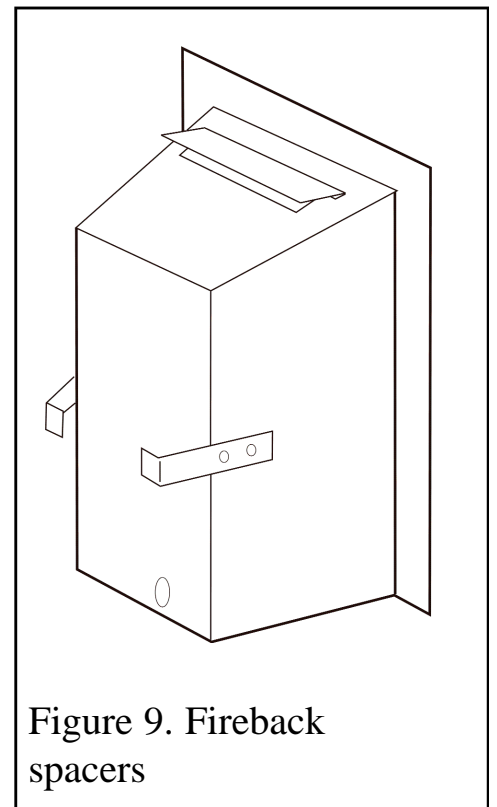

Figure 9. Fireback spacers
5. The appliance is supplied with two fireback spacers. **Do not fit the fireback spacers if the fire is to be installed into a precast or clay flue block system as in section 3.2.4.** These should extend backwards to ensure sufficient clearance from the back of the fireplace. Remove the label and retaining screws from the rear sides of the hotbox. Position the fireback spacer as shown in figure 9. Secure the fireback spacers using the screws removed previously and the two supplied with the fire.